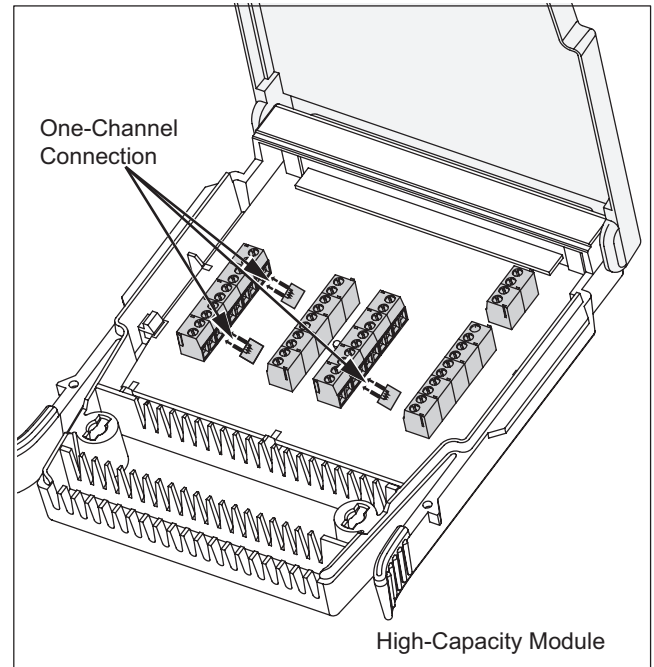

Figure 2. Position of the 1586A-101
Refer to Figures 2 and 3 for the following instructions.
3. Loosen the screws for the selected measurement channel(s) and place the Shunt Resistor(s) in position with the white side up (Figure 2). You can connect up to 10 measurement channels with each Shunt Resistor set.